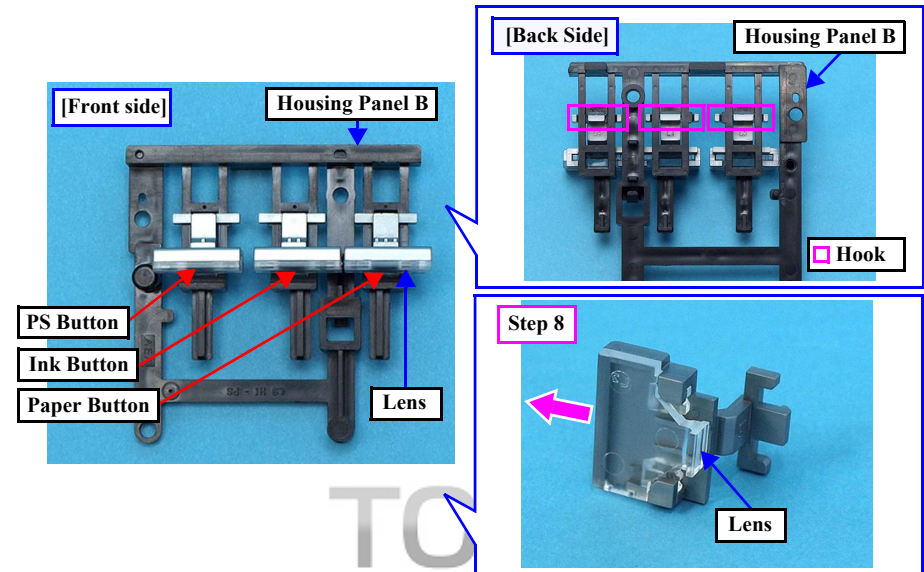

Figure 1-37. Removing the Panel Board / Buttons (4)
- Install the PS button, Ink button, and Paper button as shown in Fig.1-37.